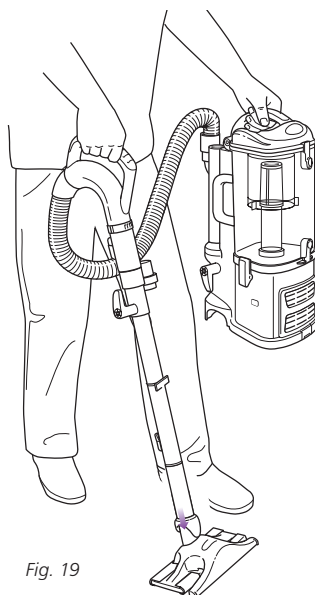

Fig. 19
- 2 Attach *Dust-Away™* hard floor attachment onto the end of the extension wand. (Fig. 19)